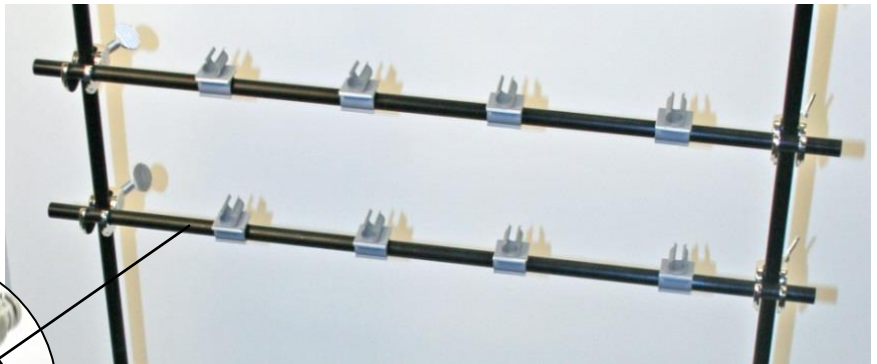

Fig. 6
Step 4: (see Fig. 6)
Note: The 2-D sound measurement array can be assembled with various widths, heights, and microphone spacing to accommodate the application as required. The 1/2" (12mm) diameter rods allow for alternative optional holders and can accommodate other sizes and styles of microphones for the array (See Fig.6)